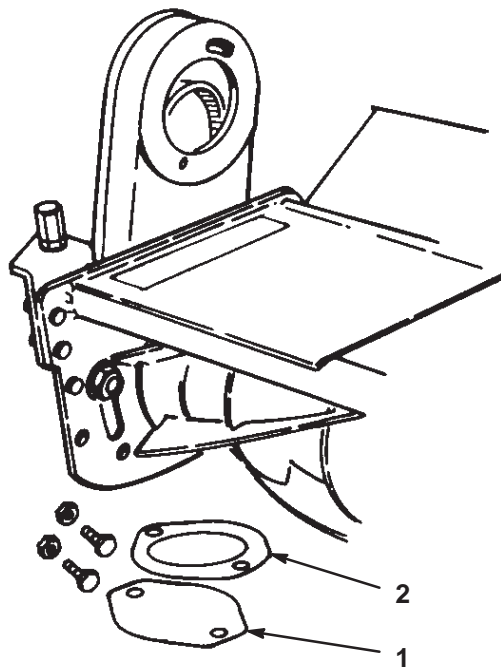

Figure 9
1. Remove locknuts, bolts, shipping cover, and drive plate shield (Fig. 9) from the cutting unit.